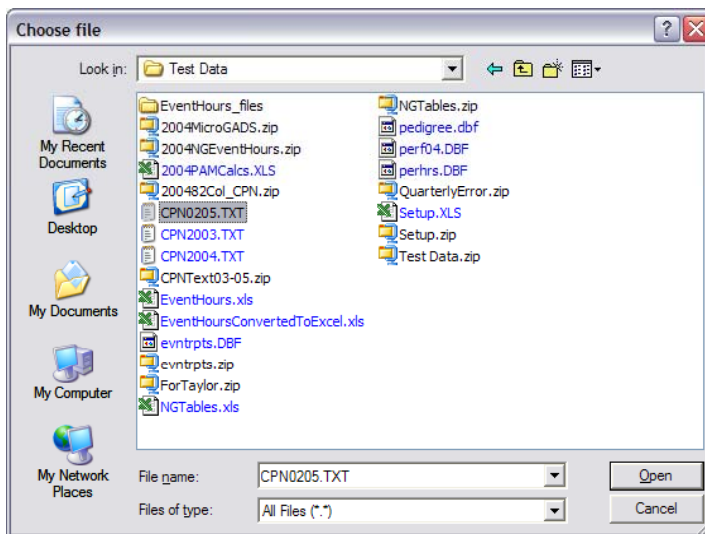

Figure 3. File Selection Dialog
2. Press the Browse button to locate the required file on your own machine. You will select a single file to upload on the screen shown in Figure 3. Participants are allowed to upload data files in the formats defined in Appendix E of Manual 20.